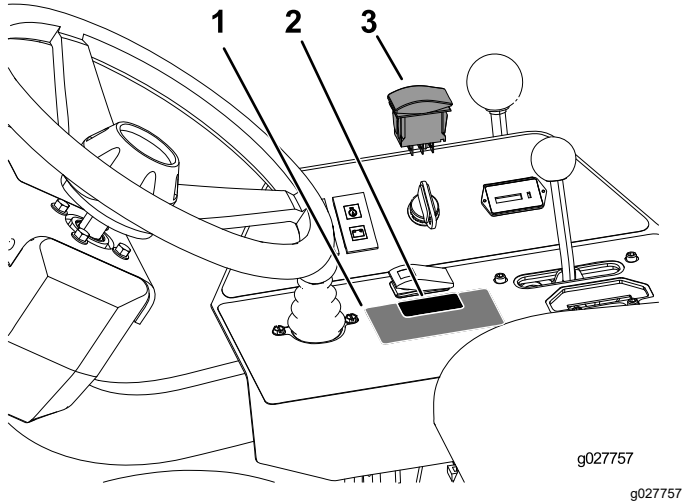

Figure 9
2. Remove the plastic plug and install the switch as shown in Figure 9.
3. **For models built before 2015:** Apply the decal onto the control panel as shown in Figure 9.